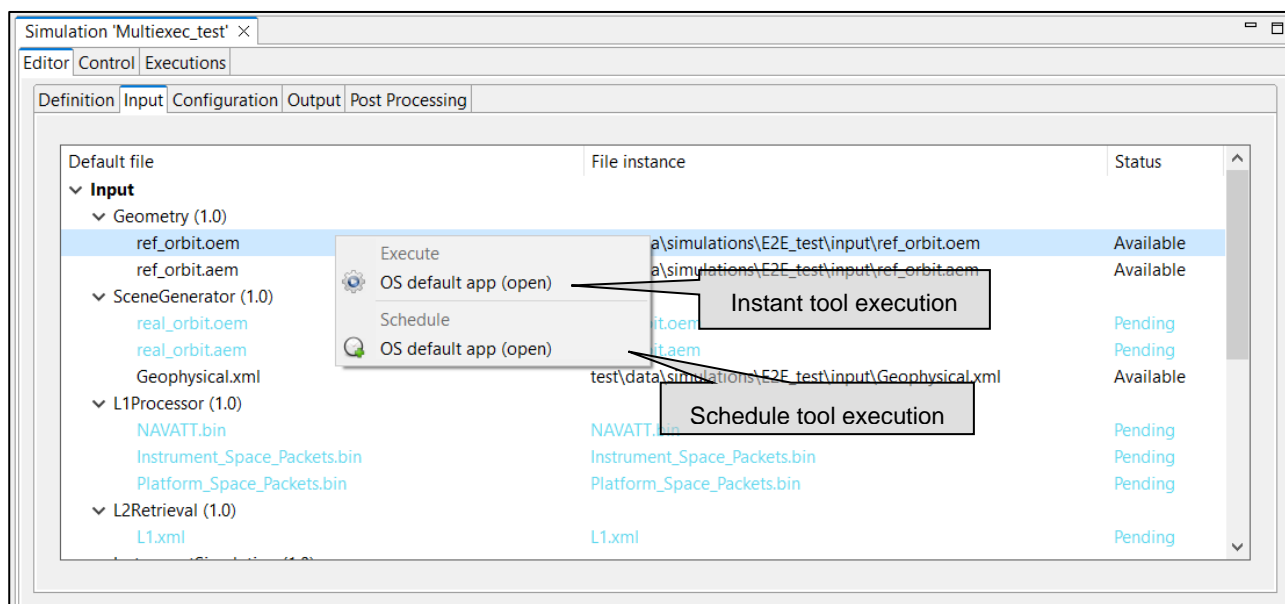

Figure 4-72: Tool Execution/Schedule from Simulation Edition View
- ❑ Tool execution from the simulation edit view and execution results view (see Figure 4-72). The execution view is the same as the simulation view with two particularities, 'Results' tab is enabled and the status is completed (successfully or not). Note that in the execution view the status of the output files is shown as *Available* if the simulation chain has been successfully executed while in the simulation editing the status is shown as *Pending* (see Section 4.3.3.6.3).